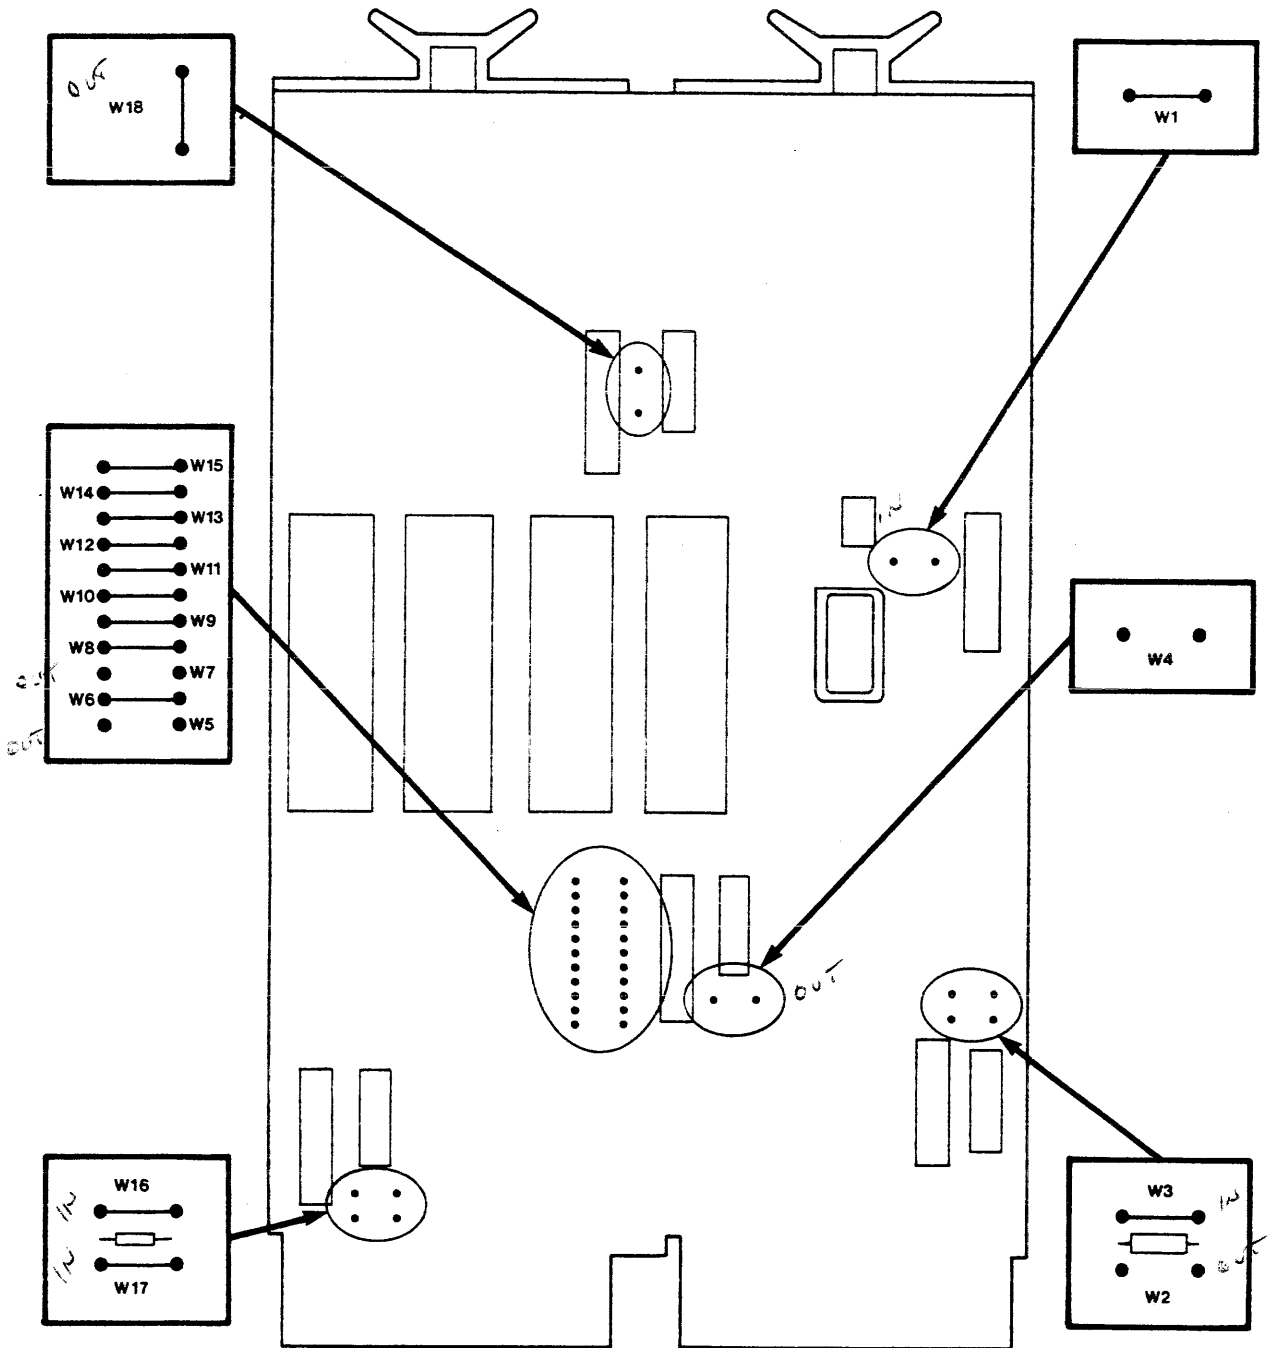

Fig. 4-1 Location of jumper pins on KDF11-AA (LSI-11/23)
1. KDF11-AA (LSI-11/23) CPU (Figure 4-1).
The KDF11-AA has eighteen pairs of jumper pins that can be configured to implement various user-selectable features. These jumpers, the various configuration options, and the SMS-shipped jumper configuration are listed in Table 4-5. Refer to Figure 4-1 for locations of jumper pins.